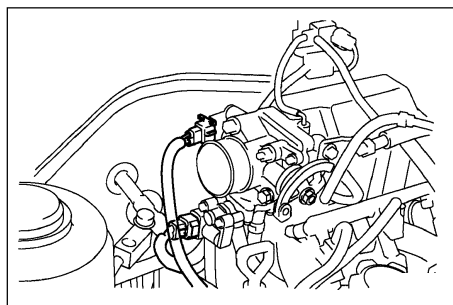

Figure 2-6
4. Remove the throttle body assembly (see Fig. 2-6).